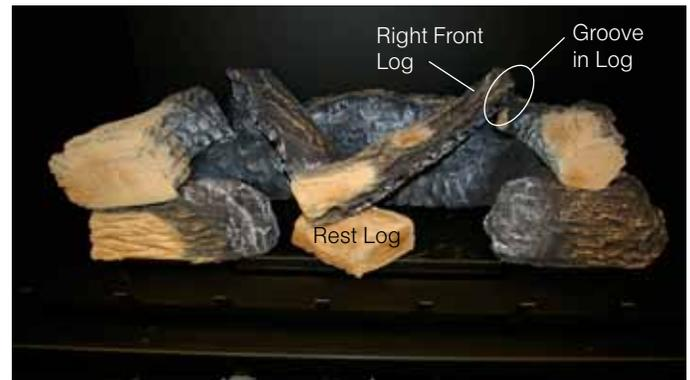

Figure 30e. Placing Right Center Log.
Step 7. Place the Right Centre log as shown in figure 30e.